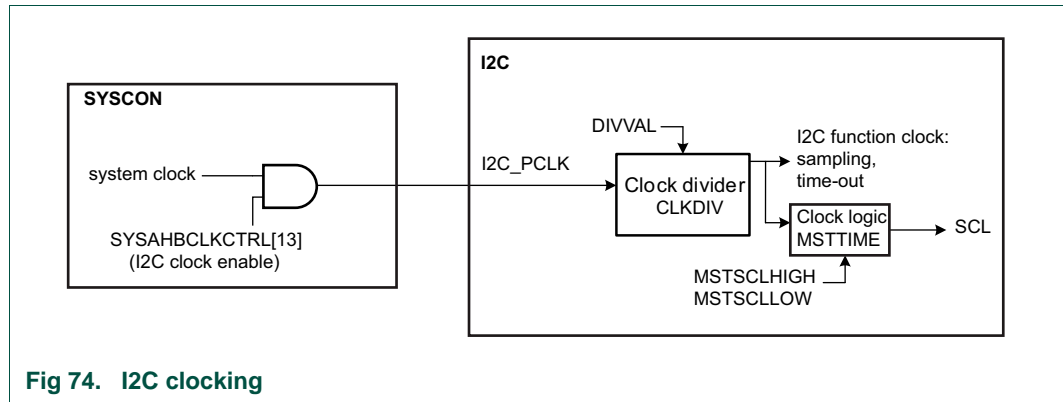

Fig 74. I2C clocking
- The peripheral clock for the I2C is the system clock (see Figure 74).